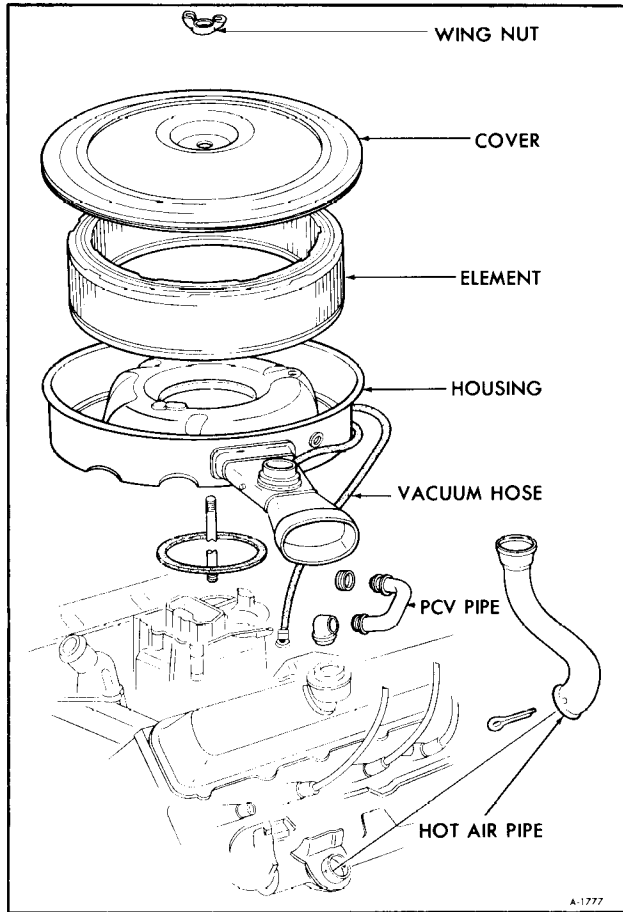

Figure 34—Air Cleaner
3. Disconnect P.C.V. pipe from the air cleaner housing. See Figure 34.
4. Lift air cleaner housing off carburetor high enough to reach underneath it and disconnect the vacuum hose from the intake manifold. See Figure 34.